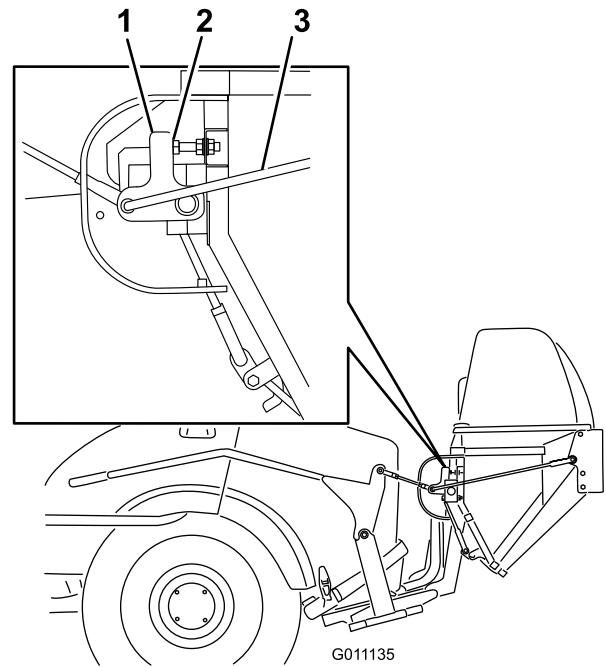

Figure 40
3. With the door closed, the stop bolts need to be adjusted so that the contact arm is straight up and down (Figure 40).
4. If adjustment is need, loosen the nuts and adjust the stop bolts (Figure 40).
5. After the stop bolts have been adjusted, the length of the hinge links can be adjusted to provide complete closing of the door and reasonable force on the handle. Lengthen the links to reduce the force. Shorten the links to increase the force (Figure 40).